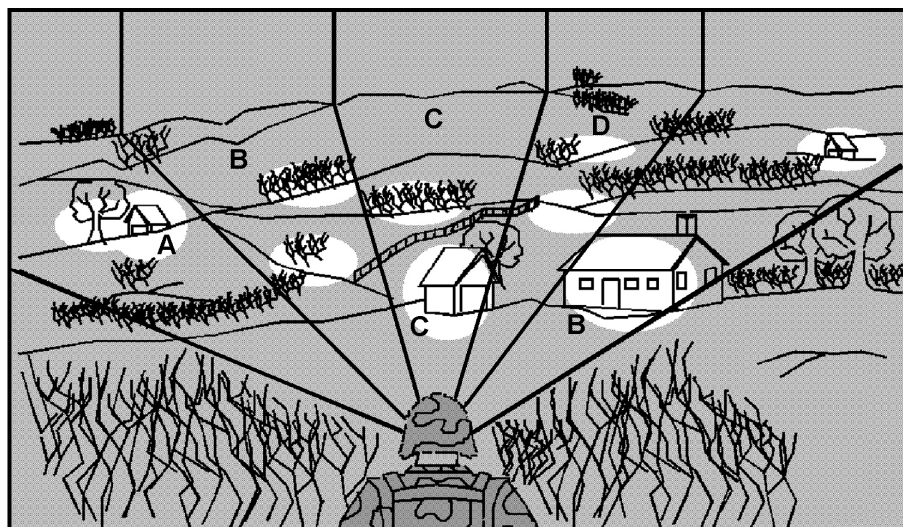

Figure C-28. Detailed search.
(3) **Detailed Search.** If the gunner finds no targets using either the rapid or slow scan techniques, he makes a careful, detailed search of the target area using NFOV (Figure C-28). The detailed search is like the slow scan, but searches smaller areas with frequent pauses and almost incremental movement. The detailed search, even more than the rapid or slow scan, depends on breaking a larger sector into smaller sectors to ensure everything is covered in detail and no possible enemy positions are overlooked. When the gunner pauses to look at areas where targets could be hiding, he may also use the zoom to magnify details in that area.